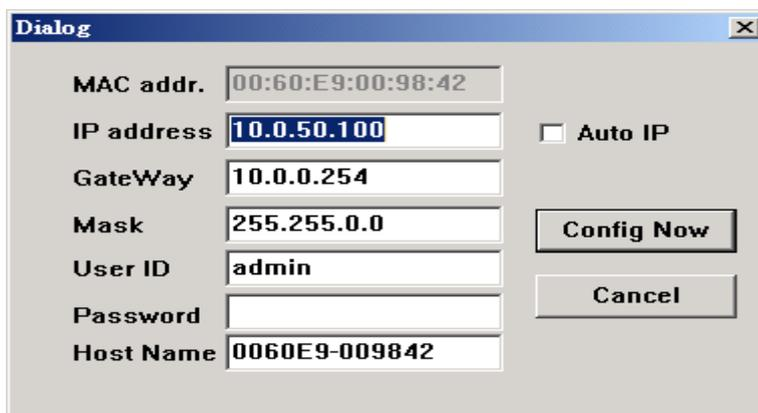

Figure D2. Configuration dialog box
2. Select the device to configure from the **IP Address** column. Click on the **Config** button and a configuration window will pop up as shown in *Figure D2*.